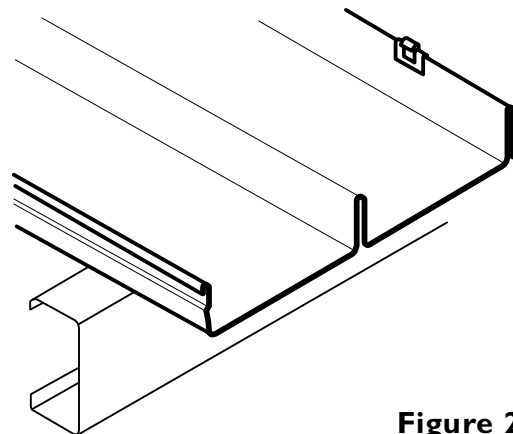

Figure 2
3. Bend the tab of all clips over the rib (Figure 2).